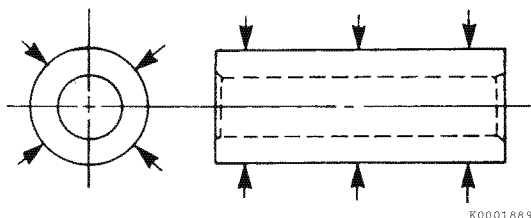

Figure 6-53
7. Measure the outside diameter of the wrist pin in three places and at 90° (**Figure 6-53**). See *Piston on page 6-9* for specifications. Record the measurements.